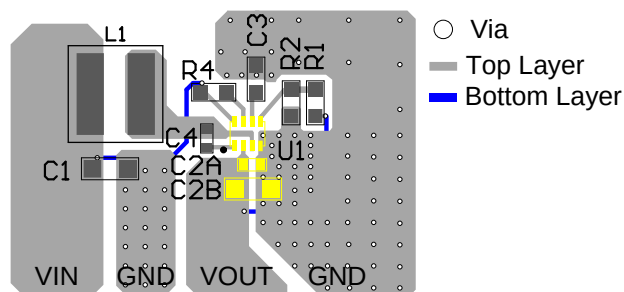

Figure 3: Recommended PCB Layout ⁽¹³⁾
For the best results, refer to Figure 3 and following the guidelines below:
See Figure 3 for layout recommendation, which is based on the schematic in Figure 4.
13) Figure 3 is based on Figure 4 on page 19.